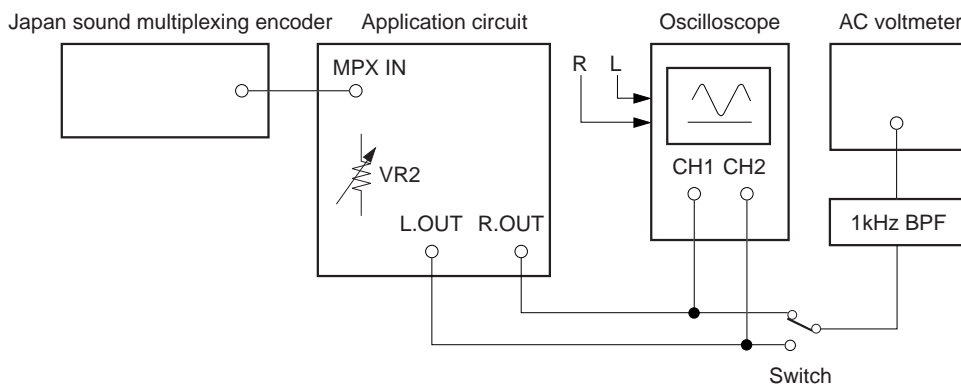

**Fig. 2**
- 1) Connect as shown in Fig. 2.